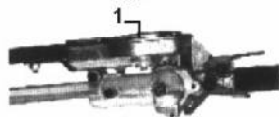

Fig.HT9
2. Using the procedures described on the previous page, rotate the cutter assembly so it is parallel to the tube. Make sure the latch lock and the latch release return securely to a locking position. See Fig.HT9